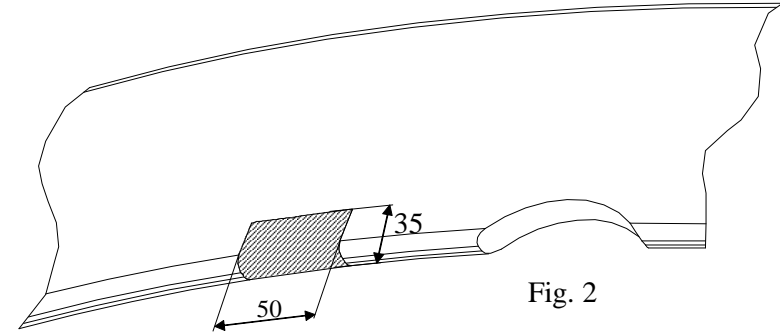

Fig. 2
- 2) Cut out fragment of the bumper in his bottom part, in axis – see fig. 2).